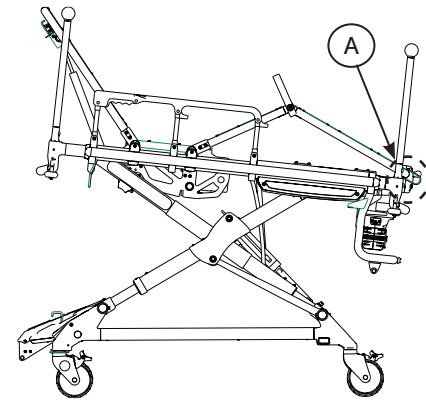

Figure 31 - Head and Foot Section Retracted
1. Squeeze the red release levers (A) on each side of the frame as you push the head or foot section out of its extended position (see Figure 31).